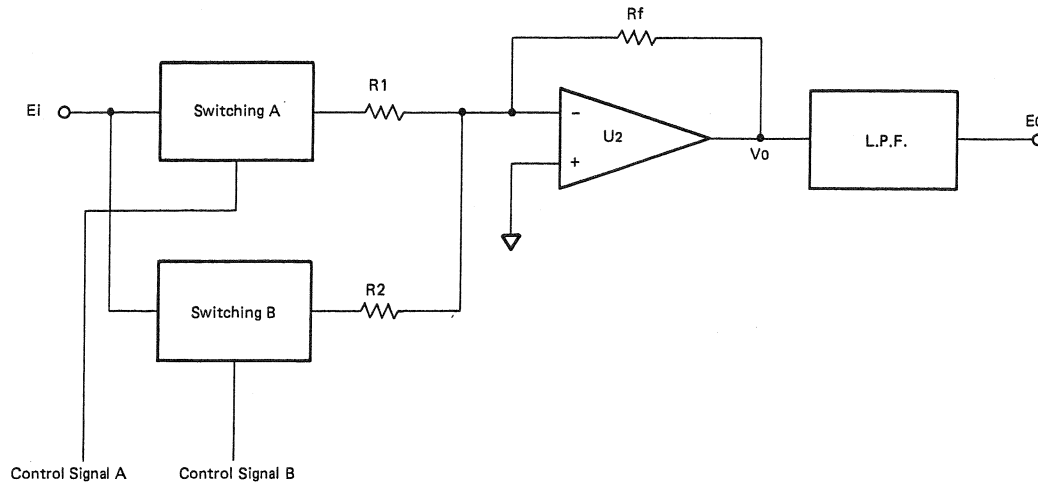

Fig. 3-2 Switching and Mixer Circuit
- (1) Inversion type EXT AF input amplifier U3 is connected to the EXT IN connector on the front panel and amplifies the external AF signal.
- (2) The bridged T-type circuitry is used for the 400 Hz/1 kHz AF oscillator. The oscillation time constant is determined by R1 through R5, R6, C1 and C2. Analog switch U2 selects the frequency to be used. When the switch is on, R2 and R3 are shorted and 1 kHz is selected. The amount of the positive feedback is determined by Q1, R7, R8, CR2 and CR3.
- (3) The switch selects one of the two signals and the selected signal is used as the modulation signal.
- (4) For modulation control, A/D converter U4 controls the modulation signal amplitude.
- (5) At buffer amplifier U6-1, the L signal amplitude circuit is connected to the L signal switching and R signal amplitude circuits in the next stage.
- (6) R signal amplitude amplifier U6-2 inverts and amplifies the L signal, and is connected to the R signal switching circuit in the next stage. Trimmer capacitor C12 compensates the phase against the L signal while variable resistor R28 compensates the amplitude.
(7) The modulator circuit mainly consists of the L signal switching, R signal switching, mixer, amplifier, low-pass filter, analog switch U10 and phase inversion amplifier U16. See Fig. 3-2 for the switching and mixer block diagram while proceeding to the following description.